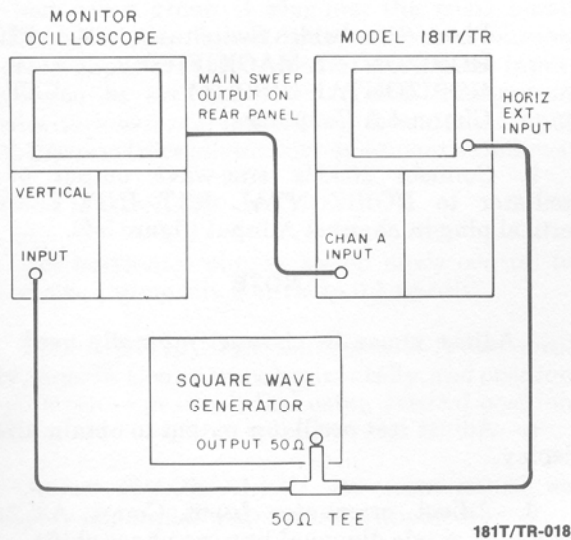

Figure 5-3. Transient Response Adj. Test Setup
- a. Use test setup (figure 5-3).
- e. Connect 1 V p-p square wave at 200-kHz repetition rate from square-wave generator to HORIZONTAL EXT INPUT and to monitor oscilloscope vertical input (figure 5-3).